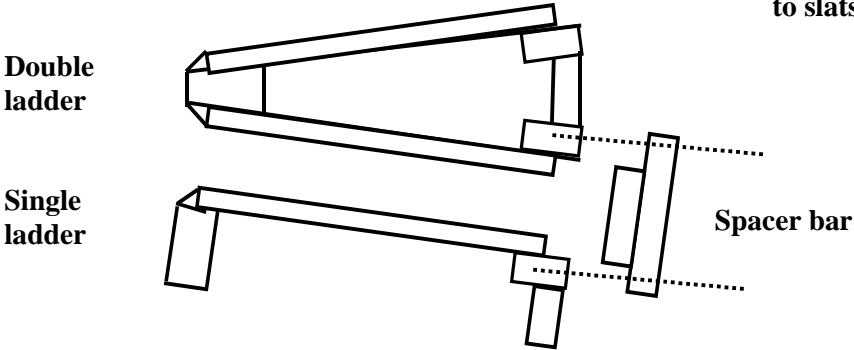

Figure 11.1
Your curved corner assembly consists of (5) pie shaped doubled ladders and (2) single ladders; one left and one right. See **figure 11.1**. You will also find (42) 5" long spacer bars, (3) curved front spacer bars, (1) curved crown and (1) curved base.
- A. Stand the right hand single ladder and a double ladder upright with the slats facing each other. Attach a 5" spacer bar by nailing through and into the ladder uprights with 1-1/2" galvanized finish nails as shown in **figure 11.1**